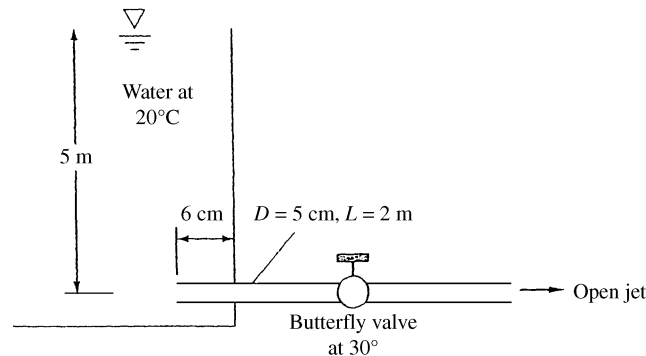

Fig. P6.107
6.107 In Fig. P6.107 the pipe is galvanized iron. Estimate the percentage increase in the flow rate (a) if the pipe entrance is cut off flush with the wall and (b) if the butterfly valve is opened wide.